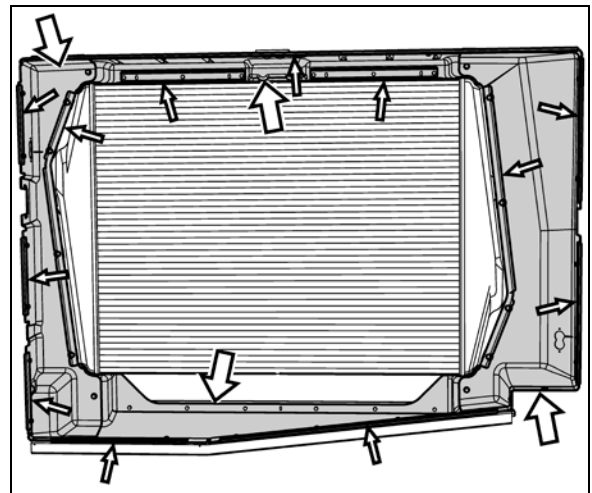

FIGURE 24: RADIATOR SEALING FRAME
9. Remove radiator sealing frame (Figure 24).